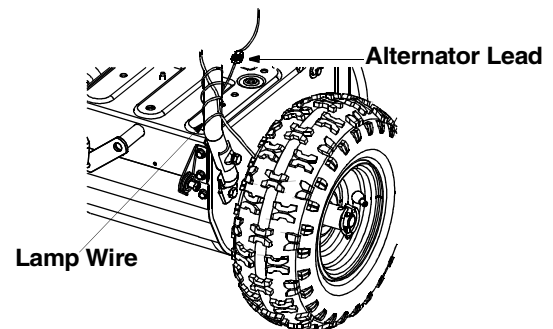

Figure 5
- Unwrap the headlight wire which is attached to the headlight, beneath the handle panel. Wind the headlight wire around the right handle until excess slack is removed. See Figure 5.
- Plug the wire from the headlight into the wire lead coming from the right side of the engine, underneath the fuel tank. See Figure 5.